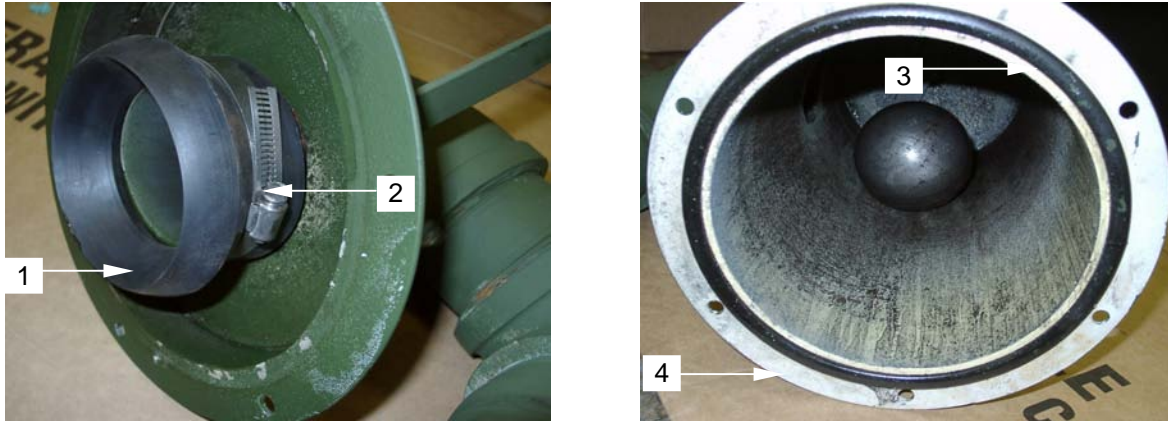

Figure 6. Installing Shutoff Seat and O-Ring from Moisture Trap
13. To reassemble the moisture trap, install a new shutoff seat (**figure 6, item 1**) and secure with a hose clamp (**figure 6, item 2**).
14. Place new O-Ring (**figure 6, item 3**) into the groove on the moisture trap body (**figure 6, item 4**).